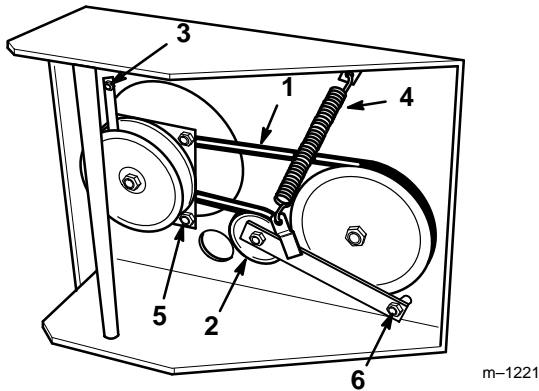

Figure 38
4. Remove left front engine mounting bolt securing clutch retainer to frame (Fig. 38). Unhook retainer from clutch and remove retainer.
5. Unhook tension spring from side of frame (Fig. 38).
8. Torque pivot bolt to 35-40 ft. lb. (47-54 N.m). Install tension spring between idler arm and frame bracket (Fig. 38).